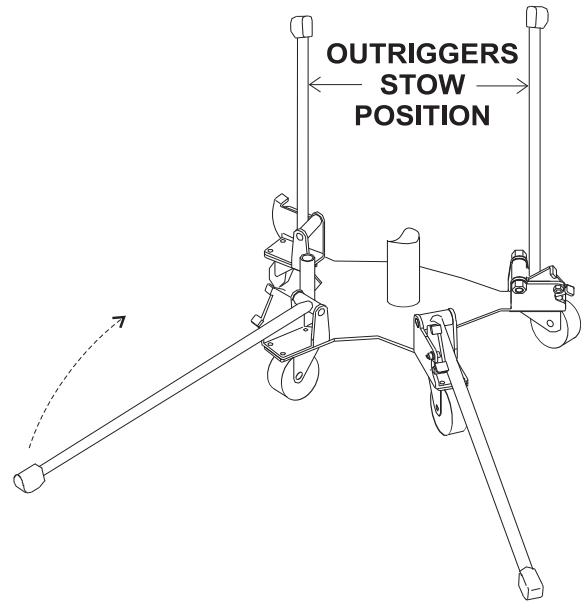

**Figure 18. Covering the Lamp/Balloon Assembly**
6. Unzip the protective cover as shown in Figure 18, and place cover over balloon/lamp assembly. Fully zip protective cover and fold velcro tabs in place.